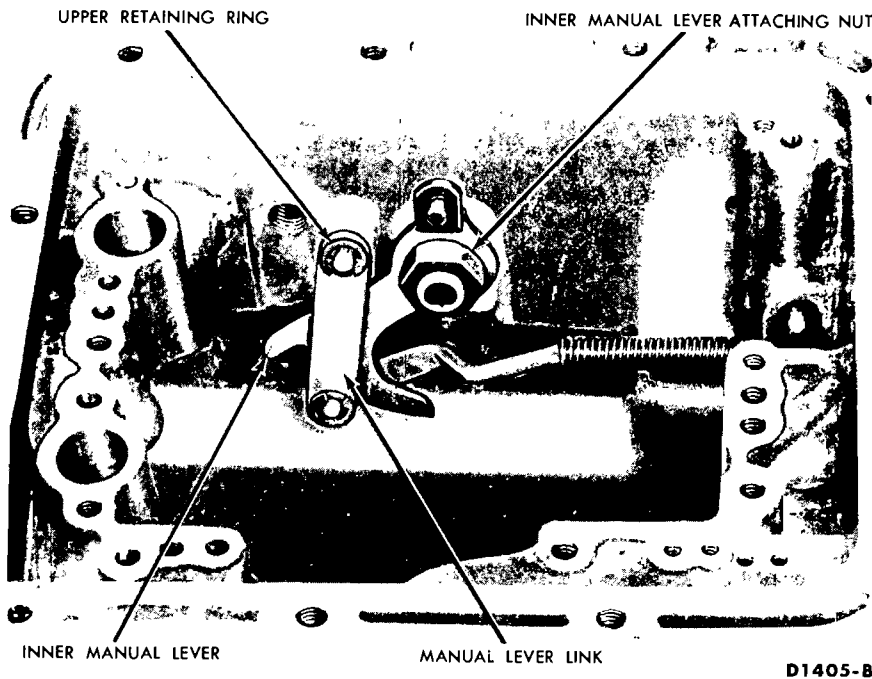

FIG. 61—Case Internal Linkage
8. Install the outer manual lever in the case. Install the inner manual lever and attaching nut (Fig. 61). Torque the nut to specification.
upper retaining ring from the manual lever link (Fig. 61). Remove the upper end of the lever link from the case retaining pin.